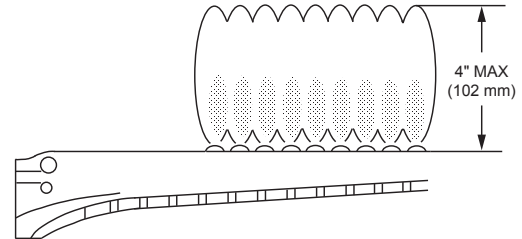

Figure 63. Main Burner Flame
4. Make visual check of the burner and pilot flames. Yellow flame means restriction of the air openings. Lifting or blowing flame indicates high gas pressure. Low flame means low gas pressure. Should the latter occur, shut the heater off and contact your gas supplier or qualified service agency. See **Figure 63** and **Figure 72**.